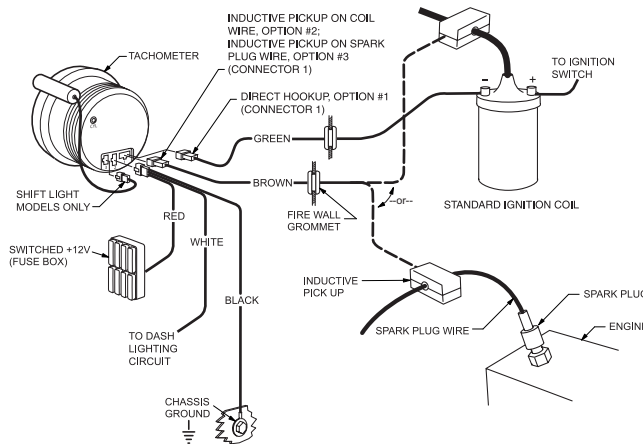

Figure 3
### Power and Ground Connections (Figure 3)
- Connect the GREEN wire to the **negative side** of the ignition coil, or to a suitable tachometer **signal port** as follows (see Figure 3):
- Connect the Inductive Pick-Up to the Ignition Coil Wire as follows (see Figure 3):
- Connect the Inductive Pick-Up to a spark plug wire as follows (see Figure 3):